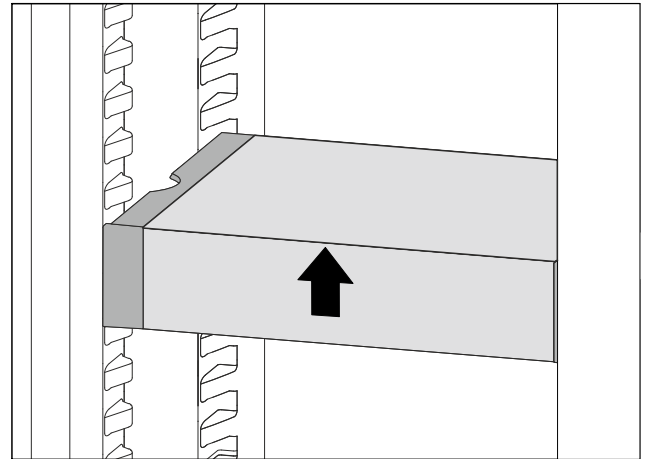

*Fig. 155*
- ▶ Place the VarioSafe drawer behind the stoppers on desired rib *Fig. 155 (1)* or *Fig. 155 (2)*.